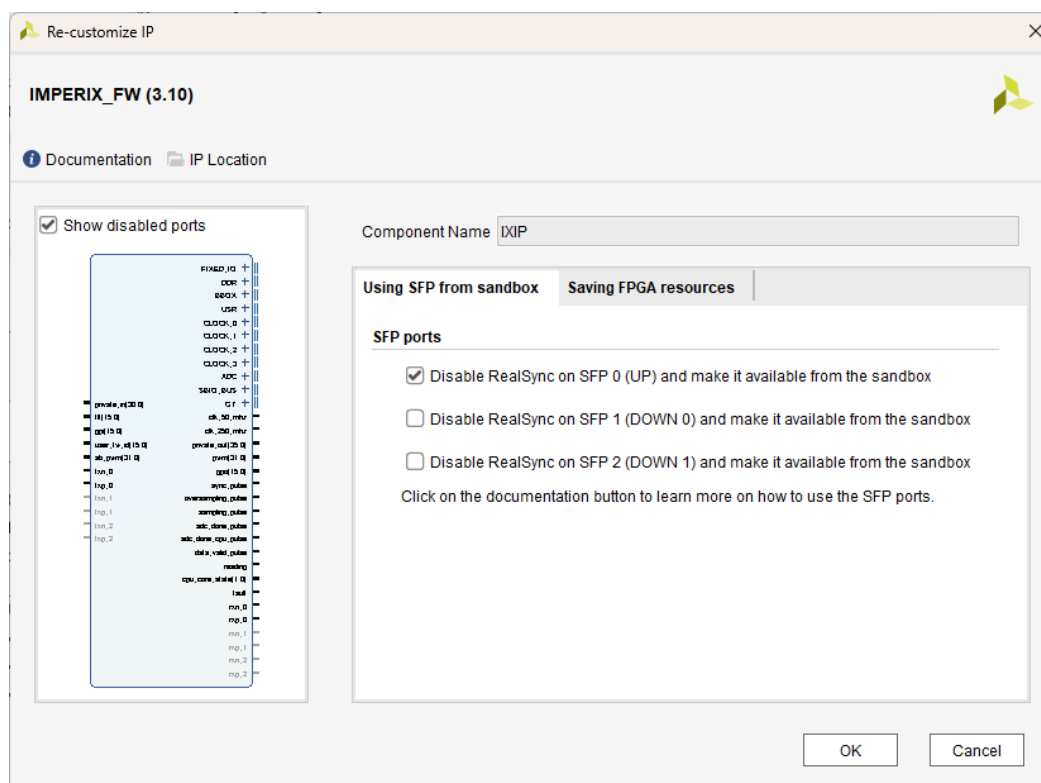

Fig. 8 – IX IP configuration panel with RealSync disabled on SFP0 (UP).
2. In the IX IP configuration panel, select options to reflect the desired configuration, as depicted in Fig. 8. Click 'OK' to apply the changes. As unconnected tx{p,n} and rx{p,n} IX IP ports could lead to Vivado warnings or issues, note that *only* the required SFP port(s) must be checked.